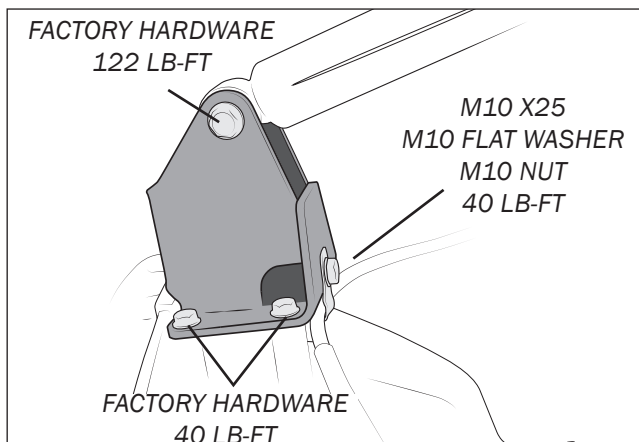

Figure 10
3. Install AEV Power Hop bracket with factory hardware (if equipped). Attach the parking brake cable to the power hop bracket with supplied hardware and torque (fig. 10).